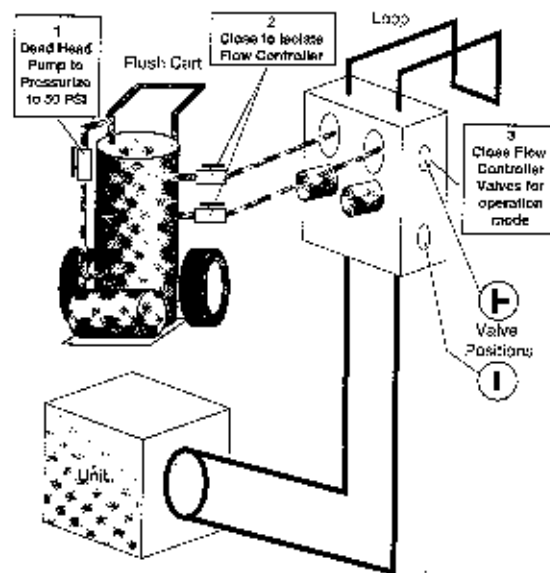

Figure 9E - Valve position E - Pressurize and Operation
- 7) Close the flush cart return valve; immediately thereafter, close the flush cart supply valve, shut off the flush cart leaving a positive pressure in the loop of approximately 40-50 psi for Summer and 50-75 psi for Winter. Refer to Figure 9E for more details.